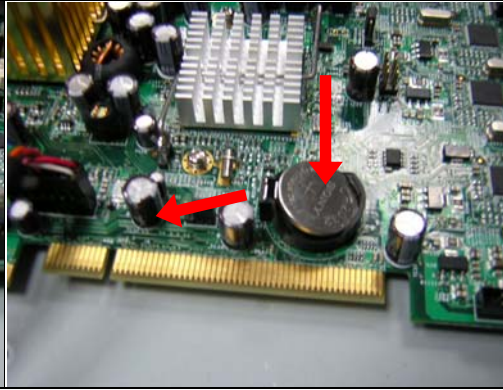

Fig. 8-2 Restore the battery
2. Replace it with a new one by pressing the battery with fingertip to restore the battery (**Fig. 8-2**).